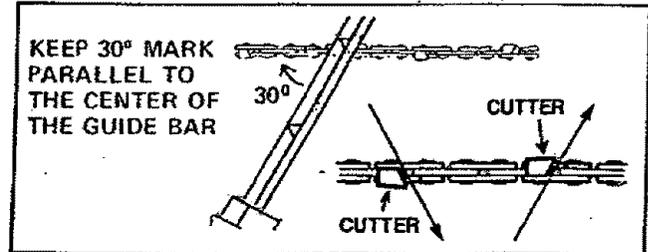

Figure 35
- Hold the file holder level with the 30° guide mark parallel to the center of the chain. Figure 35.
- File from inside toward outside of cutter, straight across, on forward stroke only. Use 2 or 3 strokes per cutting edge. Figure 35.